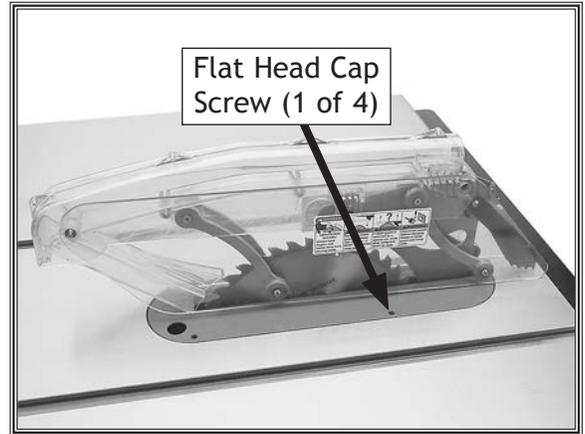

Figure 50. Blade guard installed.
- Adjust flat head cap screws (see **Figure 50**) to make sure table insert is flush with table (use a straightedge as a guide).
Note: The blade guard, when properly installed, should be set up similarly to **Figure 50**. It should pivot freely up and down and return to the table in the resting position. It should also swing up high enough to accommodate the workpiece.